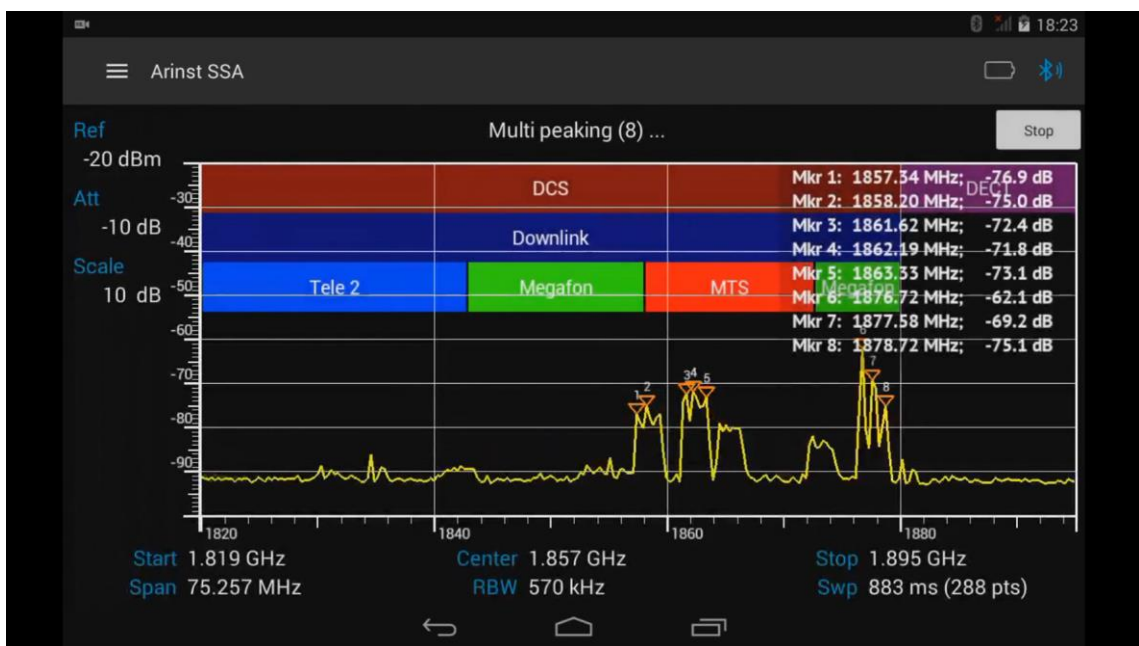

Figure 52 – Cyclic tracking of signal peak values
8.8.8. To cancel cyclic tracking of signal peak values, press the **Stop** button, located in the upper right corner of the tablet / smartphone screen, Figure 52.